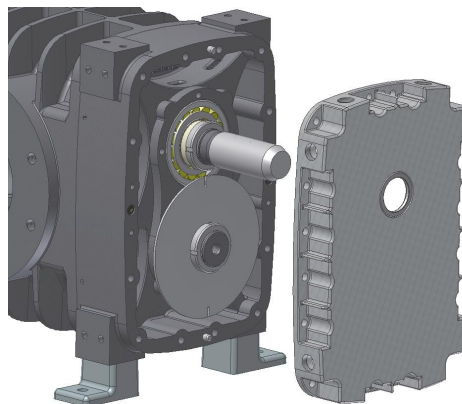

Figure 9-11 – DRIVE-END SUMP COVER INSTALLATION
58. Install shaft seal (37). Verify shaft seal bore in drive-end sump cover (4) is clean, dry, and free of nicks or burrs. Lay cover flat with external surface facing up. Support area under seal bore with a block of wood. Position shaft seal with flat side of seal casing facing outward and cupped side inward. Using tool EQ144211-1, drive shaft seal into sump cover until flat side of seal casing is flush with external surface. Apply AEON PD oil to both lips of shaft seal.
59. Slide protective sleeve EQ144211-7 over drive shaft. Apply AEON PD oil to outside surface of sleeve. Gently slide drive-end sump cover over drive shaft. Reference FIGURE 9-11.